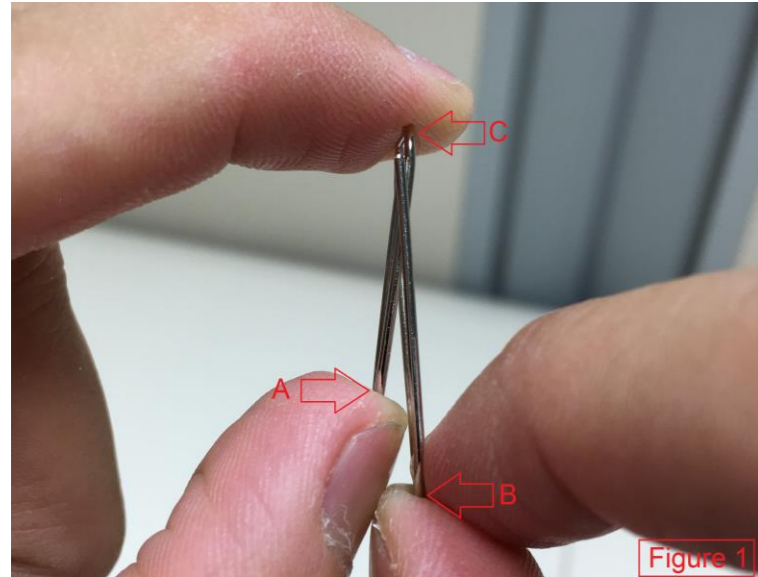

Figure 1
- 1) Hold the clip as shown in Figure 1 above.